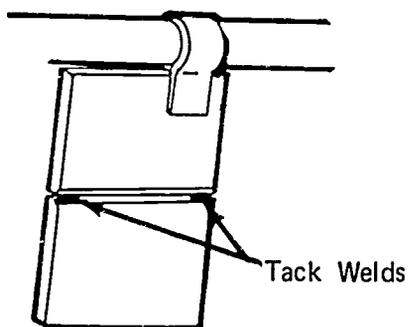

FIGURE 3
- E. Place metal in the horizontal position (Figure 3)